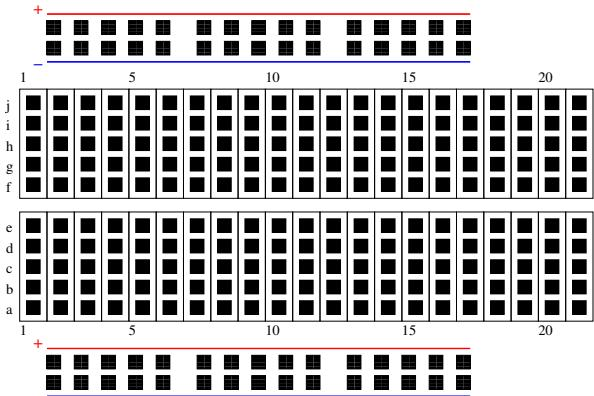

Figure 2.4: Breadboard
- A breadboard (we will be using Figure 2.4 as a guide).
Breadboards will help us to build circuits. It allows for effective connection between components without worrying about the electrical subtleties or hazards. Taking Figure 2.4 as a reference, the breadboard has internal electrical connections that makes it possible to tie multiple components to a single point. It does so by representing a *physical* connection as multiple rows of the same column. That is: holes 1a and 1d are physically connected inside the breadboard's circuitry, whereas 3d and 4a are not.
Each breadboard is divided by thick spaces among different sections. In Figure 2.4, there are four distinct sections: two with the + and - symbols, and two with numbers and letters. The latter was described above, whereas the former works in the opposite way: holes are connected with other holes in the same row. This section is often used to power the circuit, but more on that further in the practice.